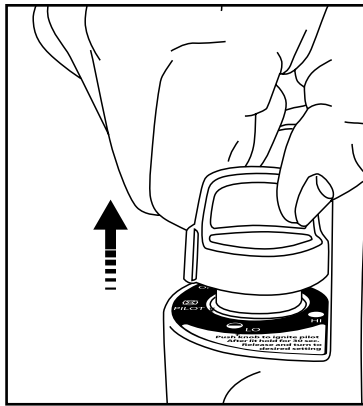

Figure 4: Release knob.
- After pilot lights, hold down pilot button for 30 -60 seconds and then release knob. Knob should return to fully extended position; see Figure 4. To operate heater slightly depress knob and gently turn to lock in the "HI" position to light burner tile. Leave on "HI" position until burner tile turns bright orange.
- After pilot lights, hold down pilot button for 30 -60 seconds and then release knob. Knob should return to fully extended position. (Fig 4) The pilot should remain lit. To operate heater slightly depress knob and gently turn to lock in the "HI" position to light burner tile. Leave on "HI" position until burner tile turns bright orange.
- After pilot lights, hold down for 30 -60 seconds and then release knob. Knob should return to fully extended position; see Figure 4. To operate heater slightly depress knob and gently turn to lock in the "HI" position to light burner tile. Leave on "HI" position until burner tile turns bright orange.